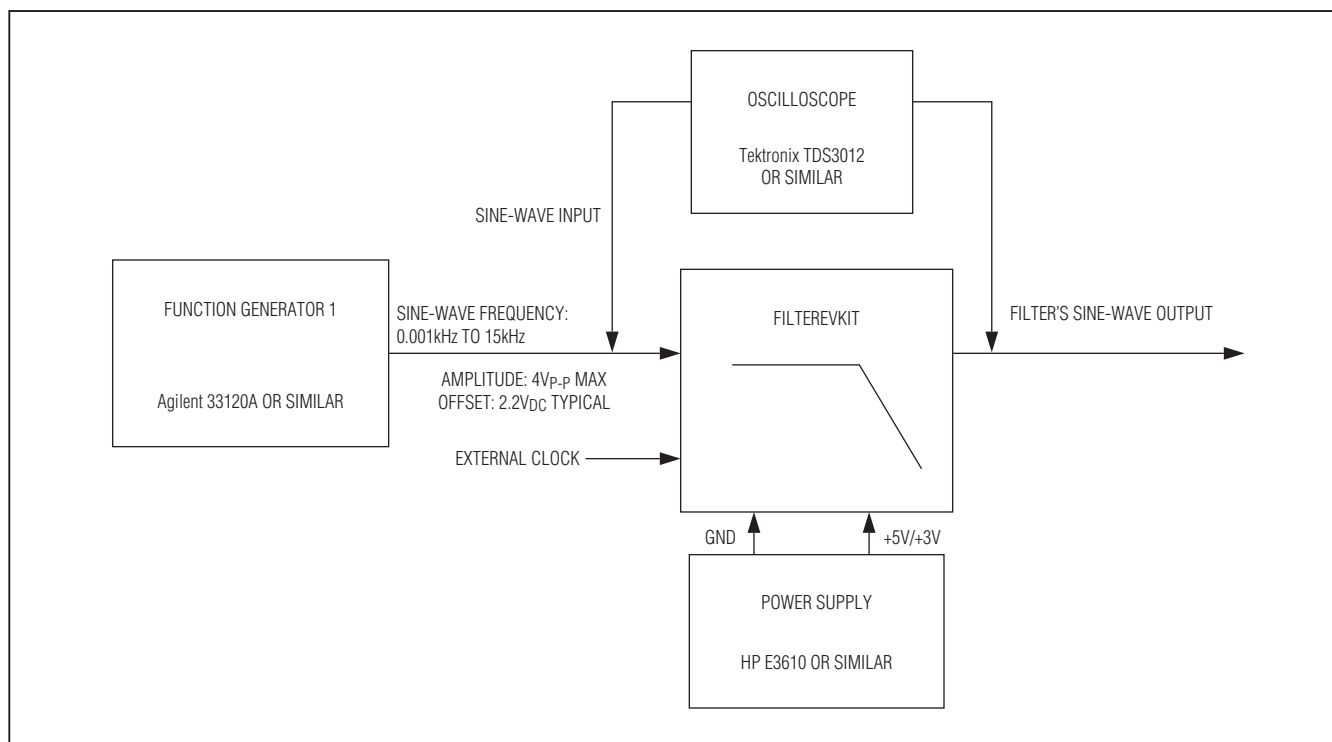

Figure 1. Filter Evaluation Test Block Diagram
- 2) If the installed IC is the MAX7408-MAX7411 or MAX7418-MAX7421, connect the positive terminal of the 5V supply to the VDD pad and the negative terminal of the supply to the GND pad closest to the VDD pad. If the installed IC is the MAX7412-MAX7415 or MAX7422-MAX7425, connect the positive terminal of the 3V supply to the VDD pad and the negative terminal of the supply to the GND pad closest to the VDD pad (see Figure 1). Set the function generator to 4VP-P max, 2.2V offset (typ), and 1kHz sine wave, and connect the signal to the IN pad.